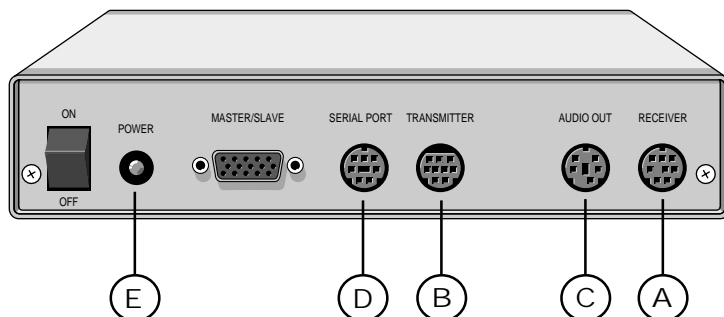
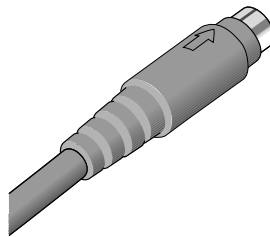

Figure 2-1. Control Unit Back Panel Connectors
Figure 2-2. Positioning the Cable Arrow
The transmitter, receiver, audio, computer, and power supply cables plug into the rear panel of the control unit. Figure 2-1 shows the connectors on the control unit's rear panel. The circled letters correspond with the components and the order you can connect them.
3. **Plug the receiver cable into the Receiver connector on the rear panel of the control unit (see A in Figure 2-1). The arrow on the cable should appear on top (see Figure 2-2).**
4. **Plug the transmitter cable into the Transmitter connector (see B in Figure 2-1).**
5. **(Optional) plug the audio cable into the Audio Out connector (see C in Figure 2-1).**
6. **Plug the rounded end of the computer cable into the Serial Port connector (see D in Figure 2-1).**
8. **Plug the rounded end of the power supply cable into the Power Supply connector (see E in Figure 2-1).**